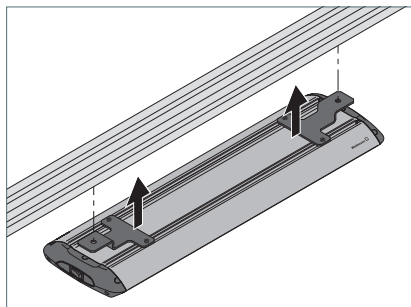
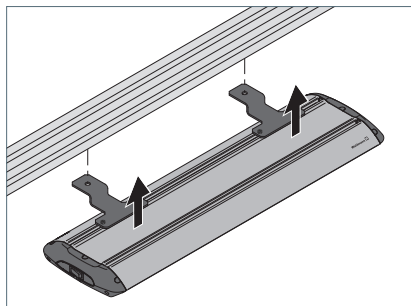

Fig. 8: Mounting the luminaire of mounting type "Top, fixed", 1st option.
Fig. 9: Mounting the luminaire of mounting type "Top, fixed", 2nd option.
- Mount the luminaire on the mounting surface using suitable screws and tighten the screws, see Fig. 8 or see Fig. 9.